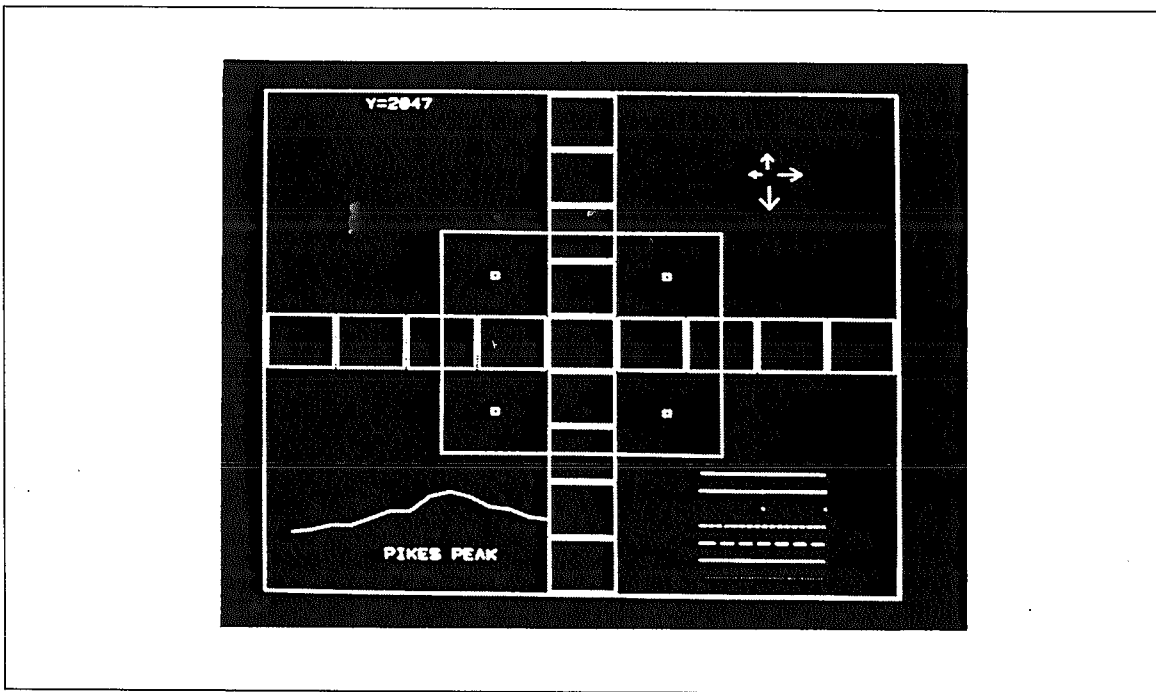

Figure 7-1 Display of Verification Pattern
2. Set jumper A17 W1 (located in hole in display shield) to the test (T) position with the power ON.
3. The pattern displayed should be the same as shown in figure 7-1. The main lines should all connect as shown and the lines in the lower right corner should be parallel. If this pattern is not displayed start troubleshooting with the HP 1345A Display (go to 8-12).
4. Set jumper A17 W1 to the normal (N) position.